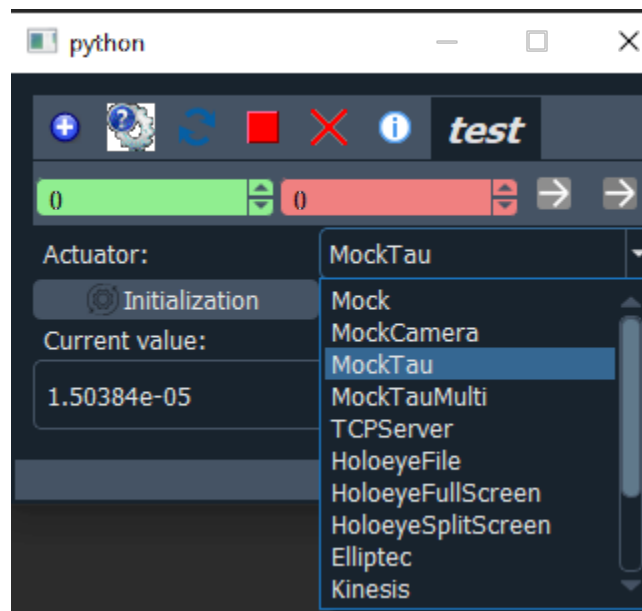

Fig. 7.14: Menu list displaying the available instrument plugin of type DAQ_Move
- **Actuator:** list of available instrument plugins of the DAQ_Move type, see Fig. 7.14.